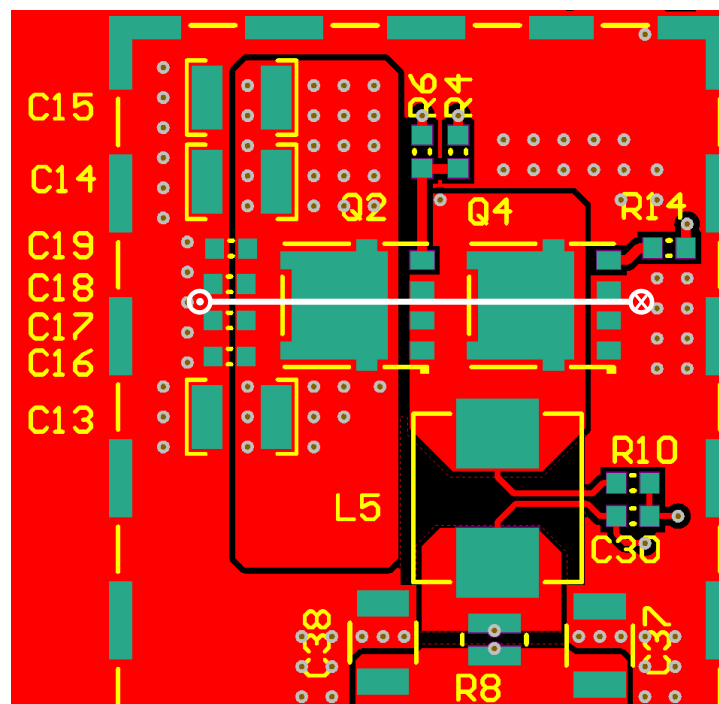

图 63. Power Stage Components ⁽¹⁾
- 图 63 shows the schematic of the high-frequency loops of one synchronous buck channel. The high-frequency power loop current flows through MOSFETs Q2 and Q4, through the power ground plane on layer 2, and back to VIN through the 0603 ceramic capacitors C16 through C19. This loop must be as small as possible to minimize EMI.